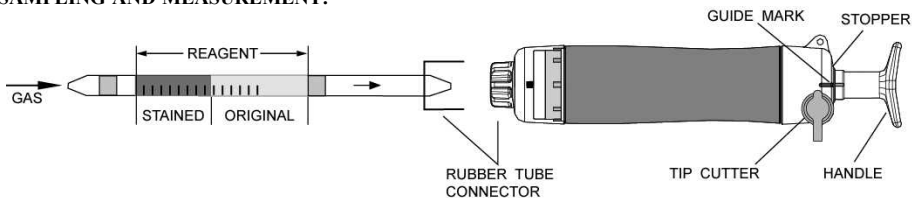

Fig.1
- ② Insert the detector tube into aspirating pump securely as shown in Fig.1. (Arrow mark shall point to the pump.)
- ③ Align the guide marks on the shaft and stopper of the aspirating pump.
- ④ Pull the pump handle at full stroke until it locks until it waits for 1 minute or until the completion of sampling is confirmed with the flow indicator of the pump (See descriptions about the flow indicator in the instructions of the pump).
- ⑤ On completion of sampling, read the scale at the maximum point of the stained layer.
- ① Temperature; Correct the tube reading by following temperature correction table.